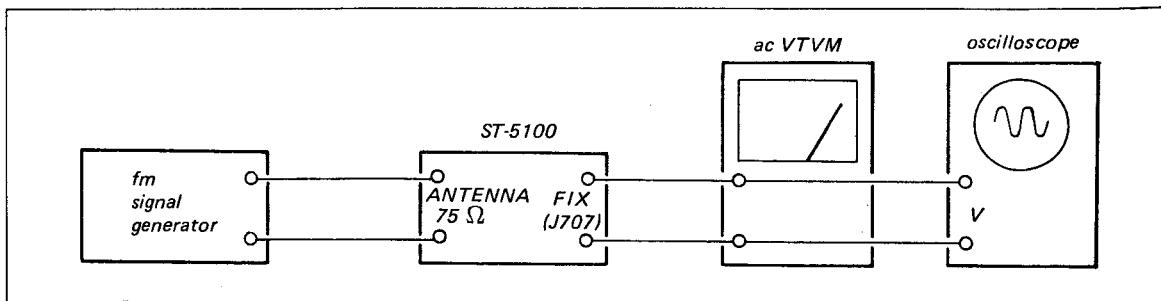

Fig. 3-2 I-f, muting and front-end alignment setup
1. With the equipment connected as shown in Fig. 3-2, set the signal-generator's controls as follows:
1. With the equipment connected as shown in Fig. 3-2, set the tuner's controls as follows:
2. Connect the equipment as shown in Fig. 3-2.